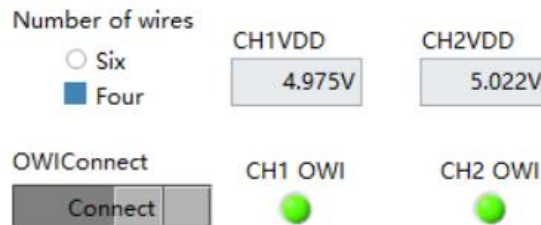

Figure 5.5.8 OWI link
- Click on the "Four" option under "Number of wires" and select the chip connection form (as described in the programmer hardware connection diagram in Chapter 3). Click the "OWI Connect" button to establish a communication connection between the programmer and the chip. When connected normally, the programmer connection indicator light will turn green (Figure 5.5.8).